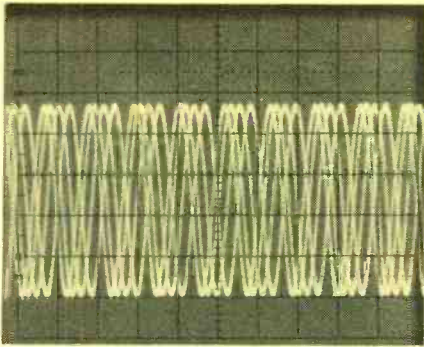

Fig. 4. Out-of-sync scope produces this meaningless pattern.
- Note: See Fig. 4 for information on ordering pc boards.
Fig. 4. Etching and drilling guide (right) and component layout (above) for main pc board. Note: etched and drilled pc boards for this and Fig. 5 are available from Select Circuits, 1411 Lonsdale Rd, Columbus, OH 43227 for \$18.95 a pair.
Construction. Assembly of the tester is not critical. However, the use of pc boards will simplify the task. Etching and drilling guides for the main and programming boards are shown in Figs. 4, 5, and 6. The main pc board contains most tester components mounted in a conventional manner. It in turn is mounted on four ¼-inch (6.4-mm) No. 4 standoffs behind the front panel of a molded plastic box. Holes are cut in the front panel for the test socket, the sixteen indicator
the vertical frequency. If this is not done, and if the starts of successive sweep ramps occur at different points on the input signal (positive peak, negative peak, start of positive alternation, etc.), the jumbled pattern shown in Fig. 4 results. In these "recurrent-sweep" scopes, the sweep signal voltage is generated by a sawtooth oscillator that is usually synchronized to the input signal by feeding it a sample of the input signal from the vertical circuits.